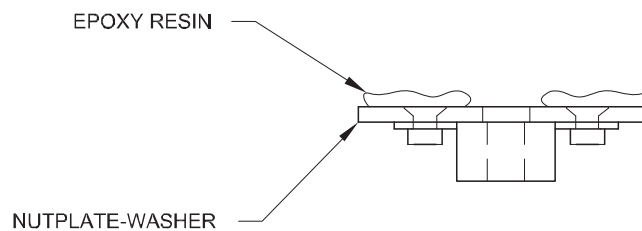

Figure B-17 Nut Plate Washers
- Apply epoxy resin to the flat side of the nut plate washers, see Figure B-17.